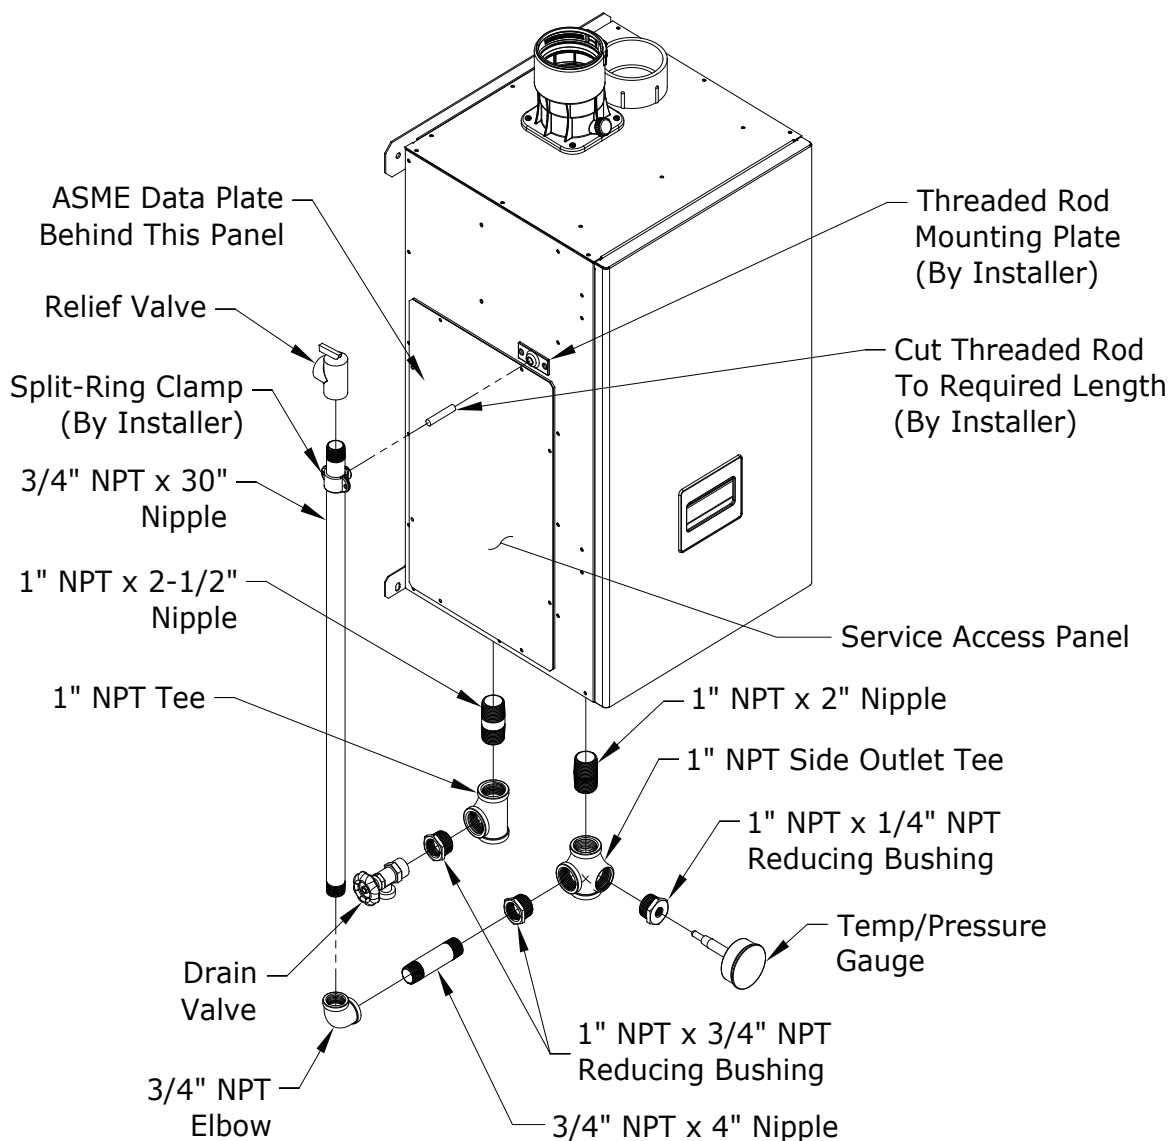

Figure 9.9: Factory Supplied Piping and Trim installation
1. Relief Valve (Required) – The relief valve is shipped loose and must be installed in the location shown in Figure 9.9, using the side outlet Tee and other fittings provided. ASME Section IV currently requires that this relief valve be installed above the heat exchanger as shown. Pipe the outlet of the relief valve to a location where water or steam will not create a hazard or cause property damage if the valve opens. The end of the discharge pipe must terminate in unthreaded pipe. If the relief valve discharge is not piped to a drain, it must terminate at least 6” above the floor. Do not run the discharge piping through an area that is prone to freezing. The termination of the relief valve must be in an area where it is not likely to become plugged by debris.
The relief valve supplied with the boiler is set to open at 30 psi. If it is replaced, the replacement must have a setting less than or equal to the maximum allowable working pressure (MAWP) shown on the ASME data plate located on the left side of the heat exchanger behind the service access panel (Figure 9.9).
2. Gauge (Required) - Indicates supply water pressure and temperature. This gauge is shipped loose. Install it as shown in Figure 9.9.
10. Drain Valve (required) – Install the drain valve supplied as shown in Figure 9.9.